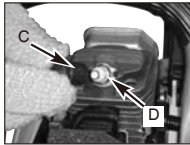

Fig. 18B
3. Disconnect the wire connector (C) from the spark plug (D) by pulling and twisting at the same time (Fig. 18B).